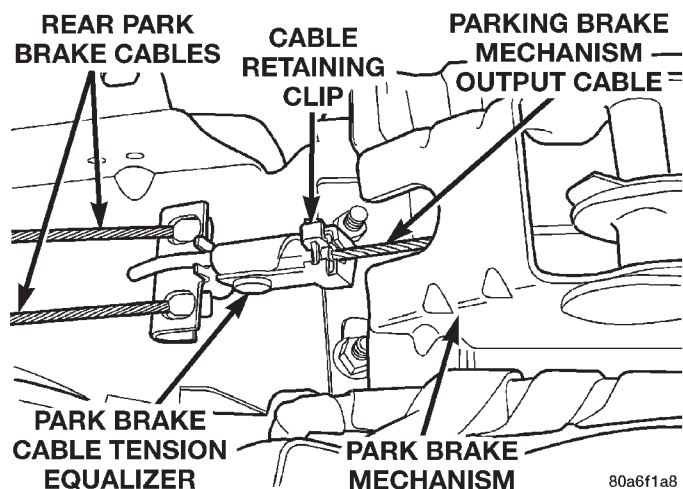

Fig. 157 Cable Retainer Installed On Tension Equalizer
CAUTION: A new retainer (Fig. 157) must be used when installing the park brake mechanism output cable on the cable tension equalizer. Cable retainer usage is required to ensure output cable can not separate from tension equalizer.
(15) Install a **new** park brake lever output cable to tension equalizer retaining clip (Fig. 157) on tension equalizer. The cable retainer (Fig. 157) must be closed and securely latched.